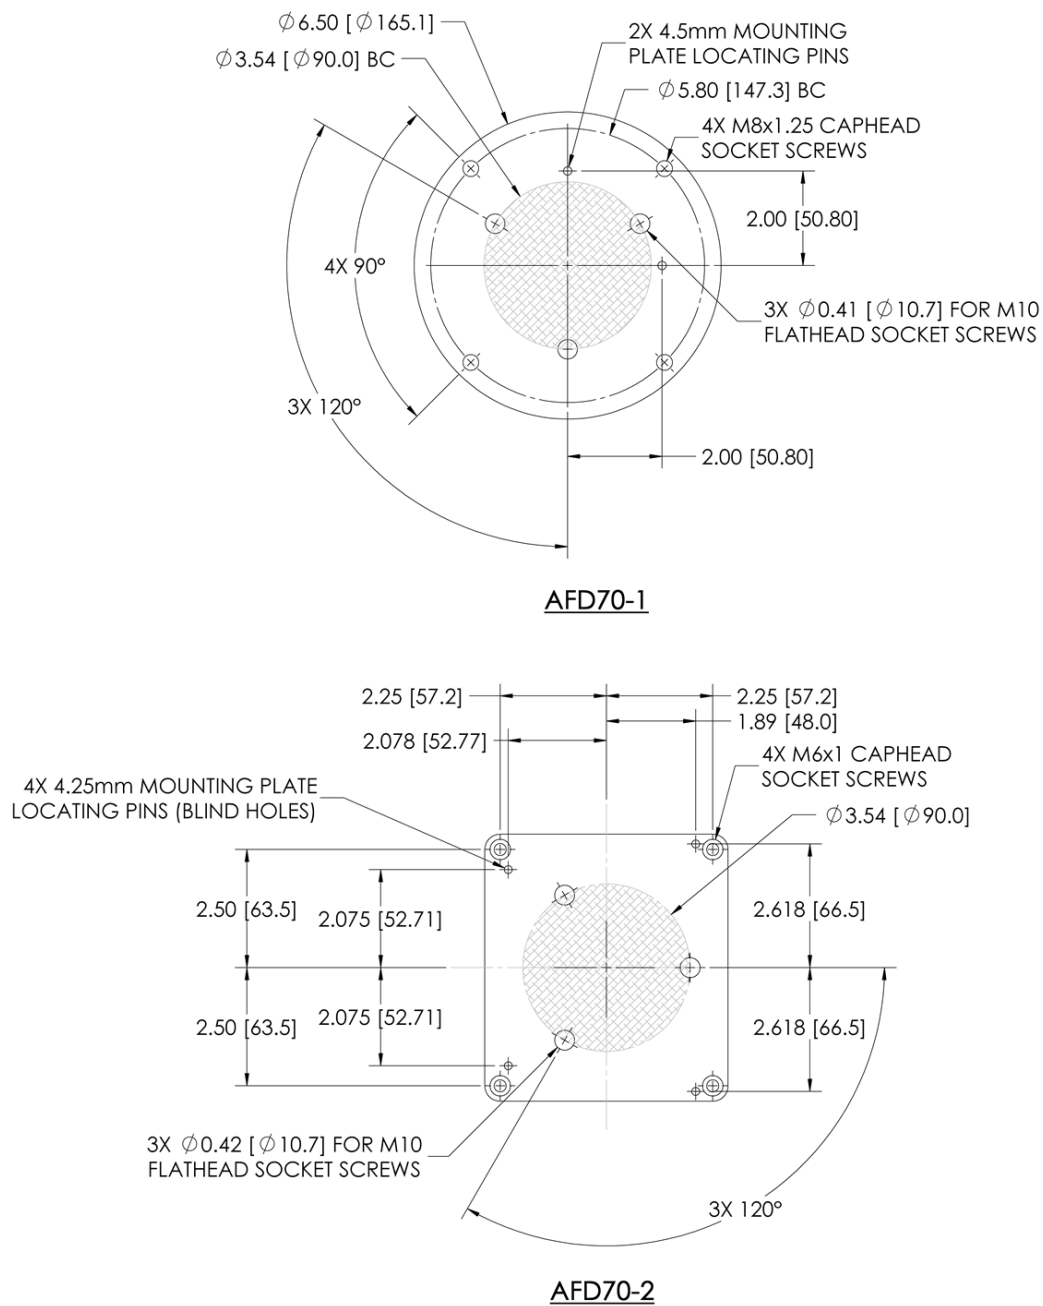

Figure 4: AFD70-1 and AFD70-2 Mounting Brackets
The *AFD70-1* and *AFD70-2* are supplied with a standard Mounting Bracket shown in Figure 4. A minimum of (3) three holes should be utilized to secure the Mounting Bracket to the robot mounting flange.
If the Mounting Bracket is supplied blank or additional holes are required, it must first be removed from the device before drilling. (4) Four M6x1 Socket Head Cap Screws are used to attach the Mounting Bracket to the AFD72 force devices. Once the Mounting Bracket is removed, mounting holes may be placed anywhere within the crosshatched area shown in Figure 4. *PushCorp, Inc.* will supply engineering support to determine the mounting hole locations at no cost.